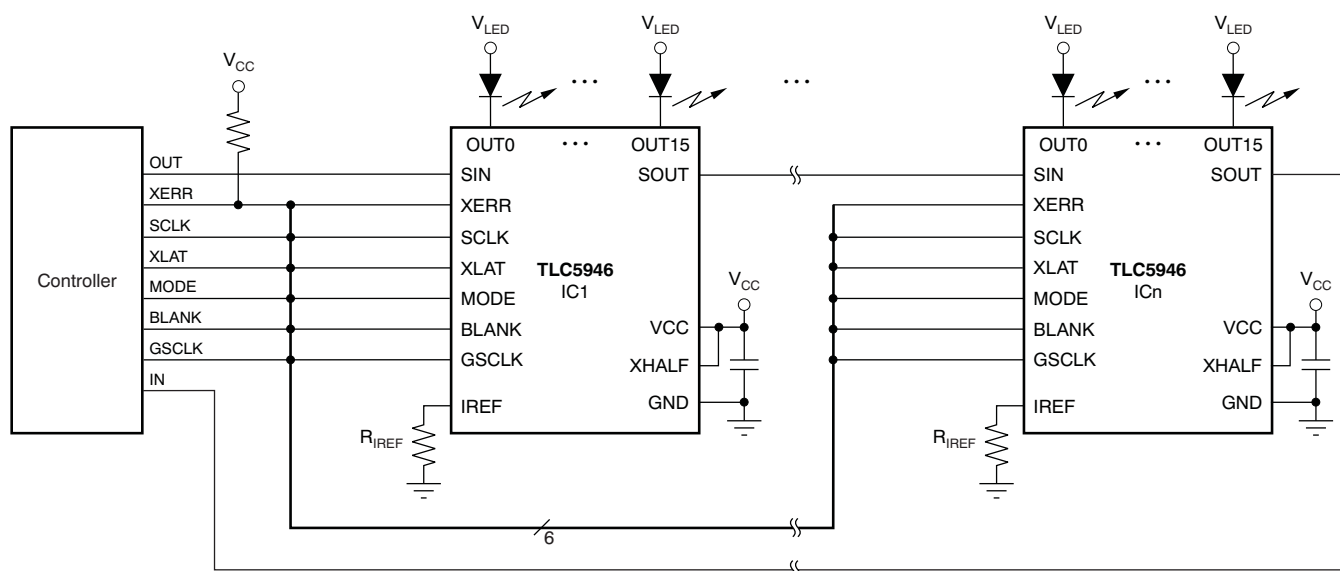

Figure 32. Cascading Device Connections
Figure 32 shows a cascading connection of n TLC5946 devices connected to a single controller, building a basic module of an LED display system. There is no limitation to the maximum number of ICs that can be cascaded. However, the maximum number of cascading TLC5946 devices depends on the application system and is in the range of 40 devices. Equation 4 and Equation 5 show the minimum frequencies for GSCLK and SCLK.
- Changed device status from Mixed Status to Production Data for QFN package - Updated front page graphic - Deleted footnote 2 from Package/Ordering Information table; device status for the TLC5946RHB is now Production Data..... - Updated Figure 32	1 1 2 22